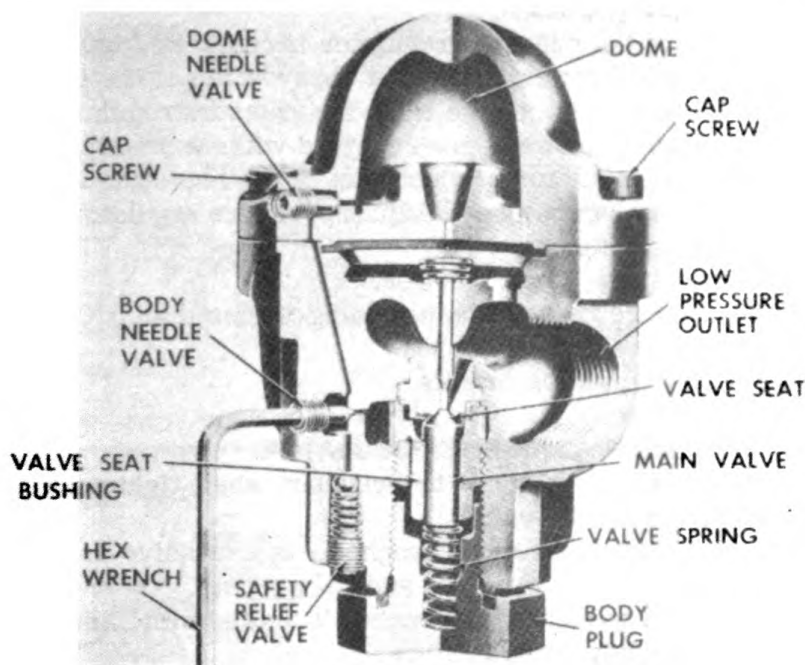

Fig. 56. Cutaway view of pressure regulator.
When properly adjusted, the pressure regulator (fig. 56) automatically reduces the pressure of approximately 1,800 pounds per square inch (in pressure container) to pressure of 370 to 380 pounds per square inch, which is required to propel fuel from weapon and operate weapon. The regulator is the dome type, with the diaphragm governing internal opening and keeping outlet pressure constant. The diaphragm is air loaded (rather than spring loaded or weight loaded). The pressure regulator is installed between the high and low pressure system. Removal of the pressure regulator from the pressure regulator assembly should not be attempted by first or second echelon. If pressure regulator becomes defective, replace pressure regulator assembly as a unit.
(6) A safety relief valve (fig. 56) is located below dome and body needle valves to prevent excessive pressure from entering the dome during adjustment of the regulator. This relief valve is preset at the factory; do not adjust.
b. Tightening dome. Using hex wrench, tighten the cap screws which hold dome tight to body of regulator (fig. 56). (If cap screws work loose, compressed air usually leaks from the dome, causing a continual drop in pressure delivered to the fuel container.) Do not tighten jack screw, which is located between two of the cap screws holding dome to body of regulator.
- (1) Close pressure tank valve.
- (2) Close pressure cut-off valve.
- (3) Release all pressure from fuel container.
- (4) Using wrench, remove body plug (fig. 56).
- (5) Remove valve spring and main valve (fig. 56), being careful not to drop or damage them.
- (6) Clean main valve and valve spring with a clean dry cloth.
- (7) Insert a small piece of wood or other blunt instrument, covered with a clean dry cloth, into valve seat bushing. Clean valve seat by rotating instrument with the fingers. Be careful not to scratch or damage valve seat or washer.
- (8) Replace main valve, valve spring, and body plug.
- (9) Adjust and test pressure regulator. If low pressure gage indicates a rise in pressure after main valve and valve seat have been cleaned, replace pressure regulator assembly.